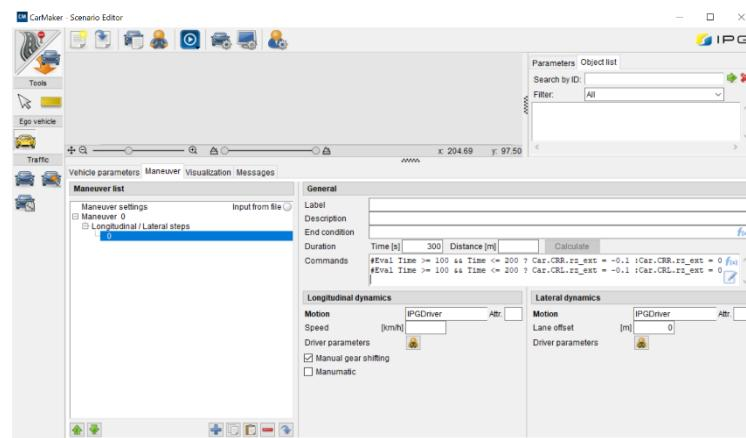

Figure 3.40: Maneuver dialog
- In Figure 3.40: there are two commented lines in the *Minimaneuver Commands* section. Those real time expressions (RTE) are not active (i.e. "#") right now. Before we start using RTE we should take a short look at the Direct Variable Access window.
In Figure 3.40 shows commented RTE. In minimaneuver syntax: